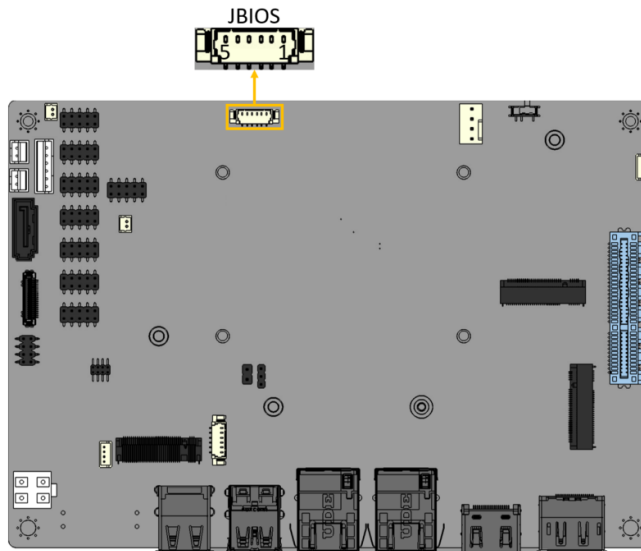

Figure 3-21: Flash SPI ROM Connector Location
- CN Location:** See **Figure 3-21**